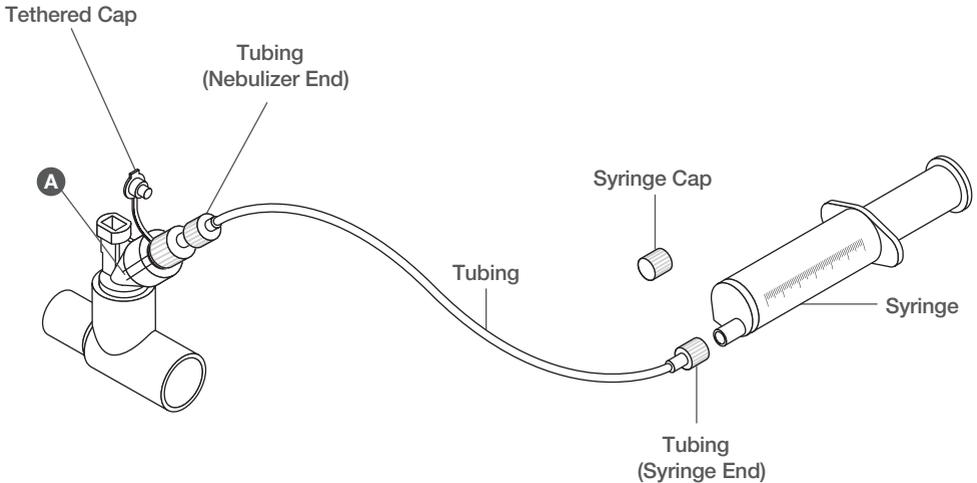

Figure 12. Continuous Nebulization Tube Set
7. Insert the syringe filled with medication into the syringe infusion pump (pump not shown in Figure 12) and set the appropriate flow rate (refer to pump manual or manufacturer for guidance).